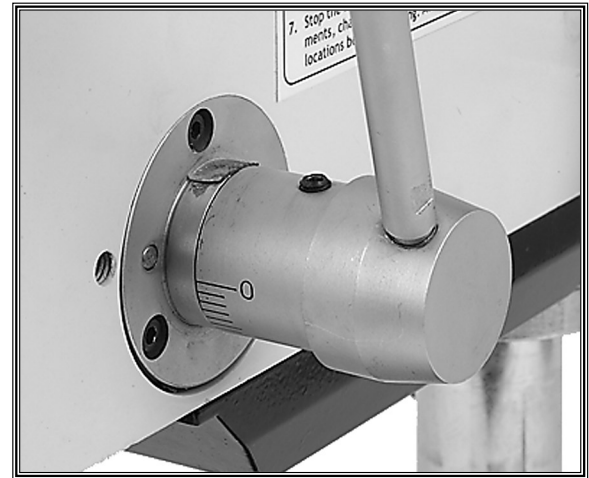

Figure 17. Depth stop.
2. To set the quill to repeat the same depth, rotate the graduated dial (**Figure 17**) past the 0 mark until it stops, then tighten the set screw.